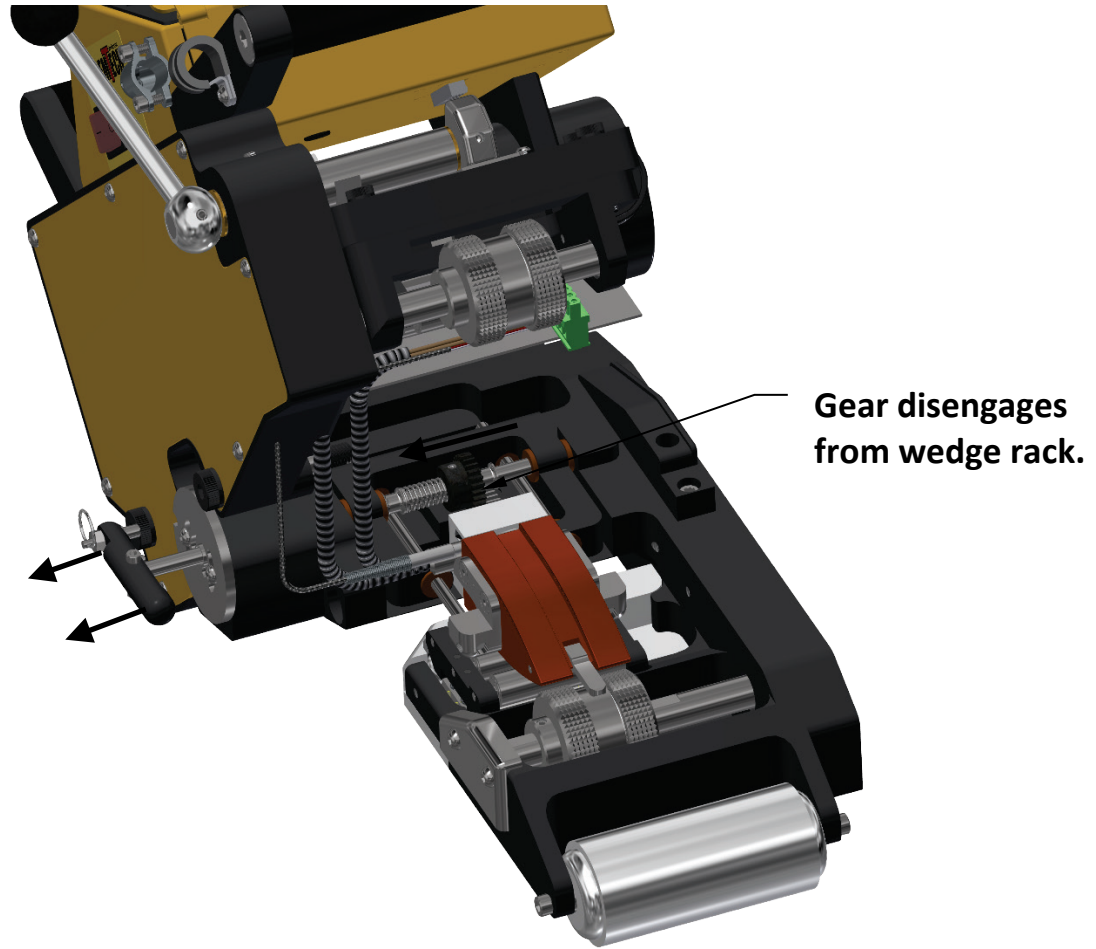

Figure 7
Loosen the two Lock-In Disc Hold-Down Screws (2) (see Figure 6). Position the Lock-In Disc so the two Hold-Down Screws are centered in the arced grooves of the Disc (see Figure 6). Tighten the Hold-Down Screws. Pull out the Engagement Handle as far as possible, approximately 5/8" (see Figure 7) which disengages the Pinion Gear from the Wedge Rack and rotate the Engagement Handle approximately 15 degrees clockwise. Release the Handle back in and rotate handle counter-clockwise moving the wedge towards the Nip Rollers. This resets the engagement of the Pinion Gear to the Wedge Rack by approximately one gear tooth. Repeat this process as many times as necessary until the Lock-In Plunger drops into the Lock-In Hole on the Lock-In Disc and the tip of the Wedge has approximately 1/8" clearance between it and the lower nip roller. The Wedge has now been re-timed.